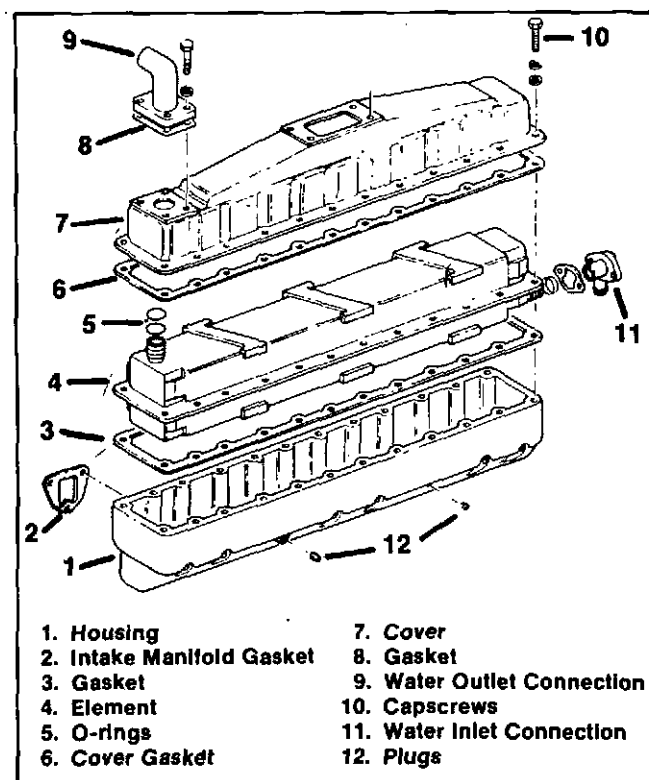

Fig. 10-1 (N10898). Aftercooler — Exploded View.
1. Put the aftercooler housing (1, Fig. 10-1) on a workbench. Hold the housing so that it will be in the same position as it is on the engine.
2. Put the gasket (3) on the housing. Apply clean lubricating oil to the new O-rings. Install the O-rings onto the water inlet and outlet fittings of the element (4). Fit the element into the housing.
3. Install the water inlet connection (11) and new